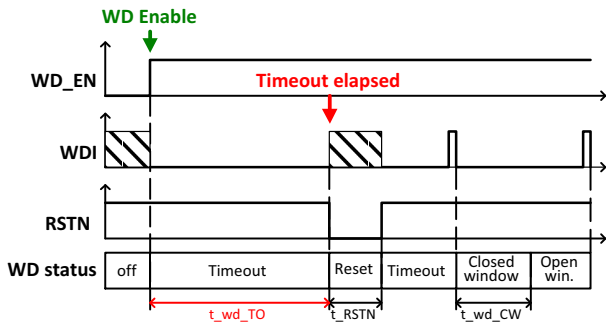
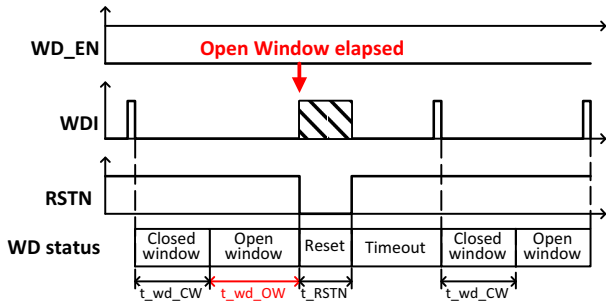
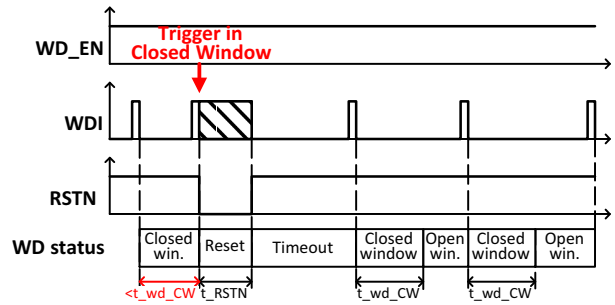

Figure 13. Missed Watchdog in Timeout Mode
Figure 14. Missed Watchdog in Window Mode
Figure 15. Watchdog Service during Closed Window
- ◆ Temperature (see Figure 14)
In case the watchdog is not triggered before the timeout or open window elapses (Figure 13, Figure 14), or trigger is sent within the closed window (Figure 15), RSTN signal is generated and then watchdog restarted in the timeout mode again.